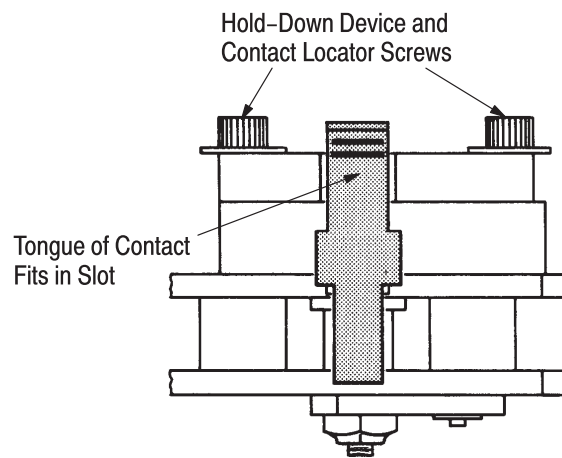

Figure 4
7. Open the tool head, and position the contact in the nest, locating the outer end of the wire barrel (wire-entry end) so that it extends from the nest area between 0.76 to 1.02 [.030 to .040] as shown in Figure 4.